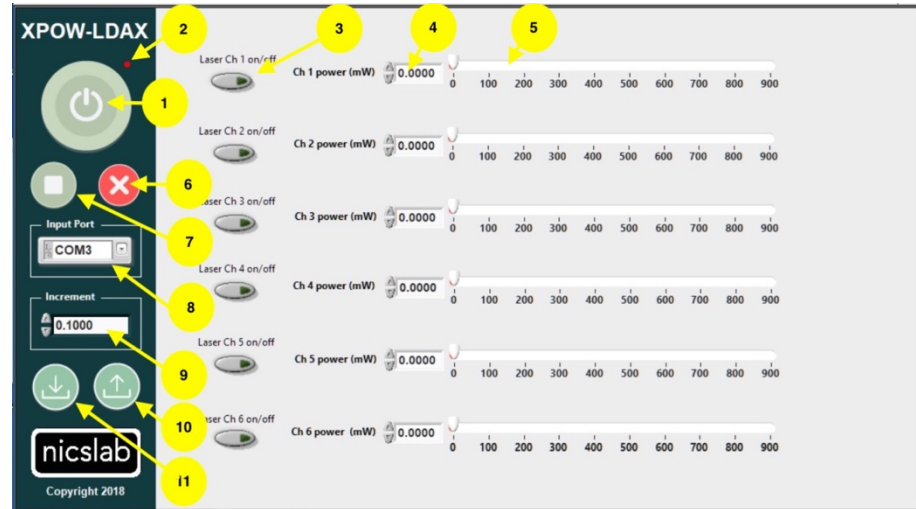

Fig. 4. Xpow-LD6AX graphical user interface features
- 11** Turn on XPOW-LD6AX by pushing the switch button on the software or GUI as shown in Fig. 4 no.1 (green light will on after few seconds on XPOW-LD6AX box).
- 12** Select the channel to be activated by clicking the laser enable on channel controller (Fig. 4 no. 3).
- 13** Adjust the laser power output according to your need with slider or by type it (Fig. 4 no. 4 and 5).
- 14** To save the voltage setting, click save setting (number 11 on Fig. 4) and type setting file. To avoid error, save to your document folder that does not require admin authorization otherwise run the program by right click the exe file and run as administrator.
- 15** To load the saved setting, click load setting (number 10 on Fig. 4) and select the saved setting file that you want.
button (Fig. 4 no. 6). Then you can safely turn off the independent power supply and the last is the XPOW-LD6AX box.